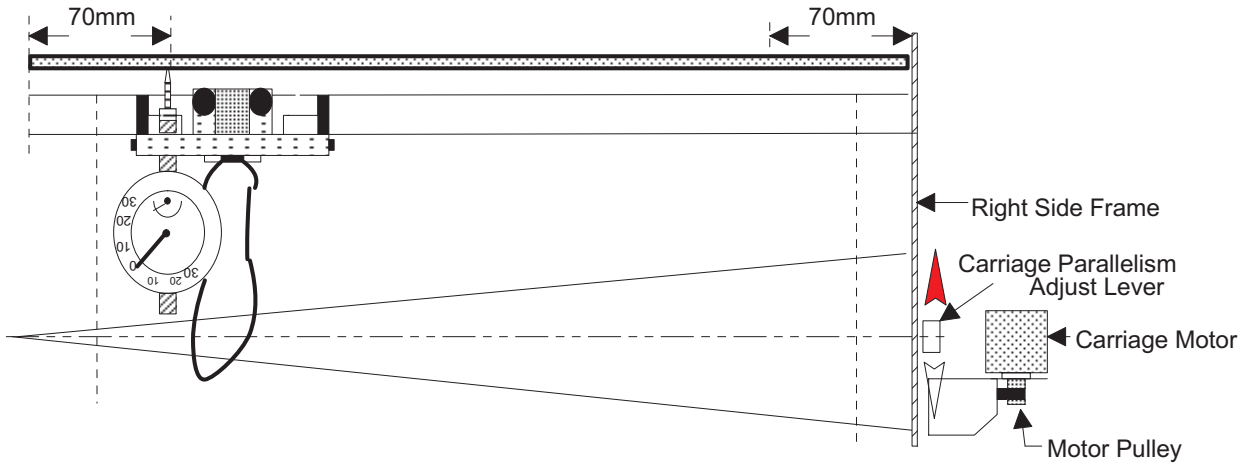

Figure 4-11. Carriage Guide Shaft Parallelism Adjustment
Step 12: Measure the distance between the platen and the carriage guide shaft on the left side. Then measure the distance between the platen and the rear carriage guide shaft on the right side, and compare these values. (Figure 4-11 shows the measurement position and the parallelism adjust lever operation.)
Step 5: Measure the angle difference about three position such as figure below. (Using the CR motor pulley to move the carriage with the dial gauge toward the right side. See Figure 4-11.)